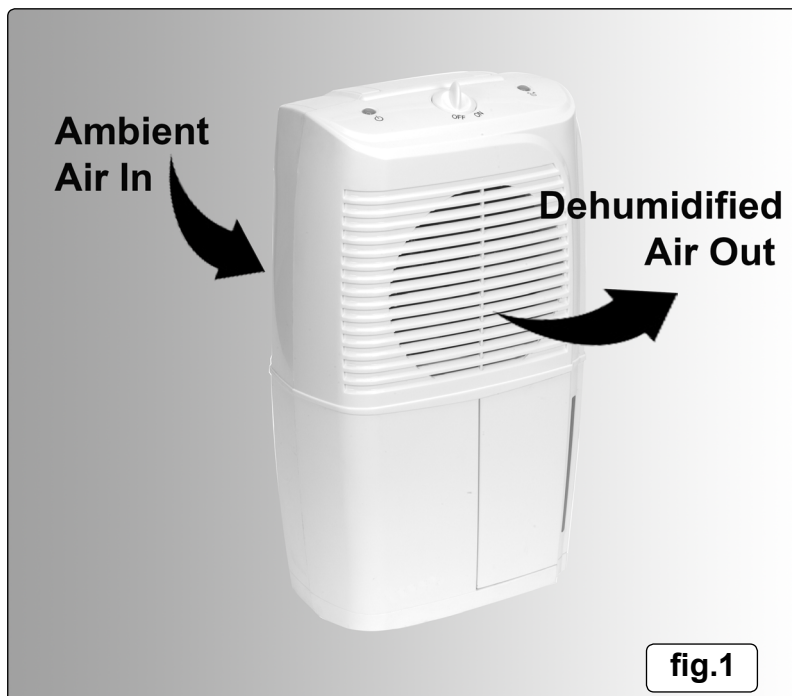

fig.1
- 4.1.1. Place the unit in the area to be dehumidified, making sure that both inlet and outlet grilles (fig.1) are unobstructed.